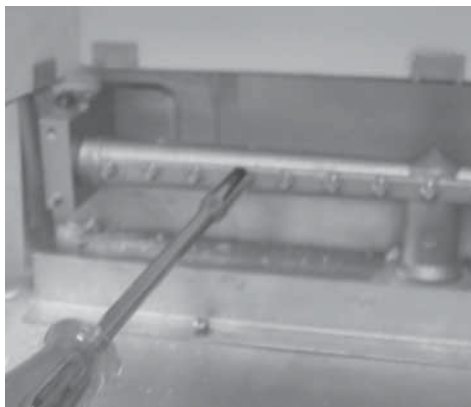

Figure 33
- Remove burner assembly from combustion chamber as detailed in **Section 17 (8)** retaining all washers/gaskets for use on re-assembly.
- Remove burner injectors as shown in *Figure 33*.